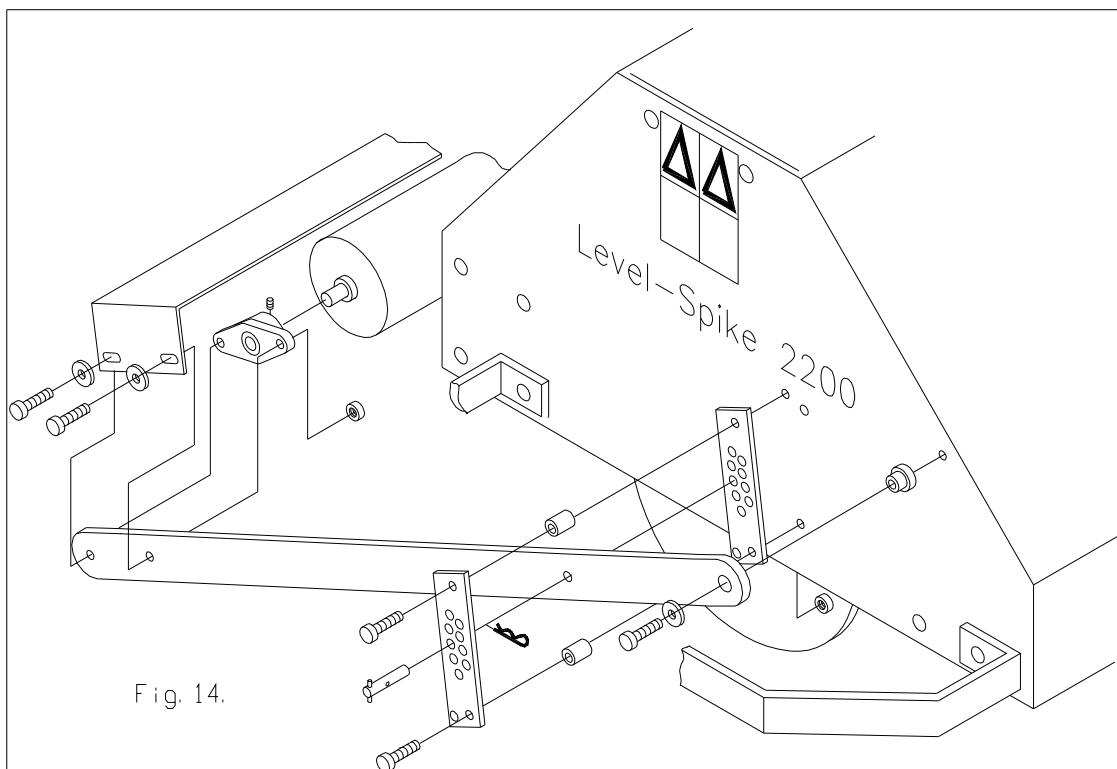

Fig. 14.
12.5 REAR ROLLER KIT, See fig.14.
A rear roller kit (# 213.170.002 for the 1700 and # 213.220.002 for the 2200) is available for both LEVEL –SPIKES. In Fig.14. the assembly of the rear roller is given, which is straight forward. The rear roller can float or set at a certain position. Please take notice of chapter 4.0, in which some notes are given, related to the use of the rear roller.